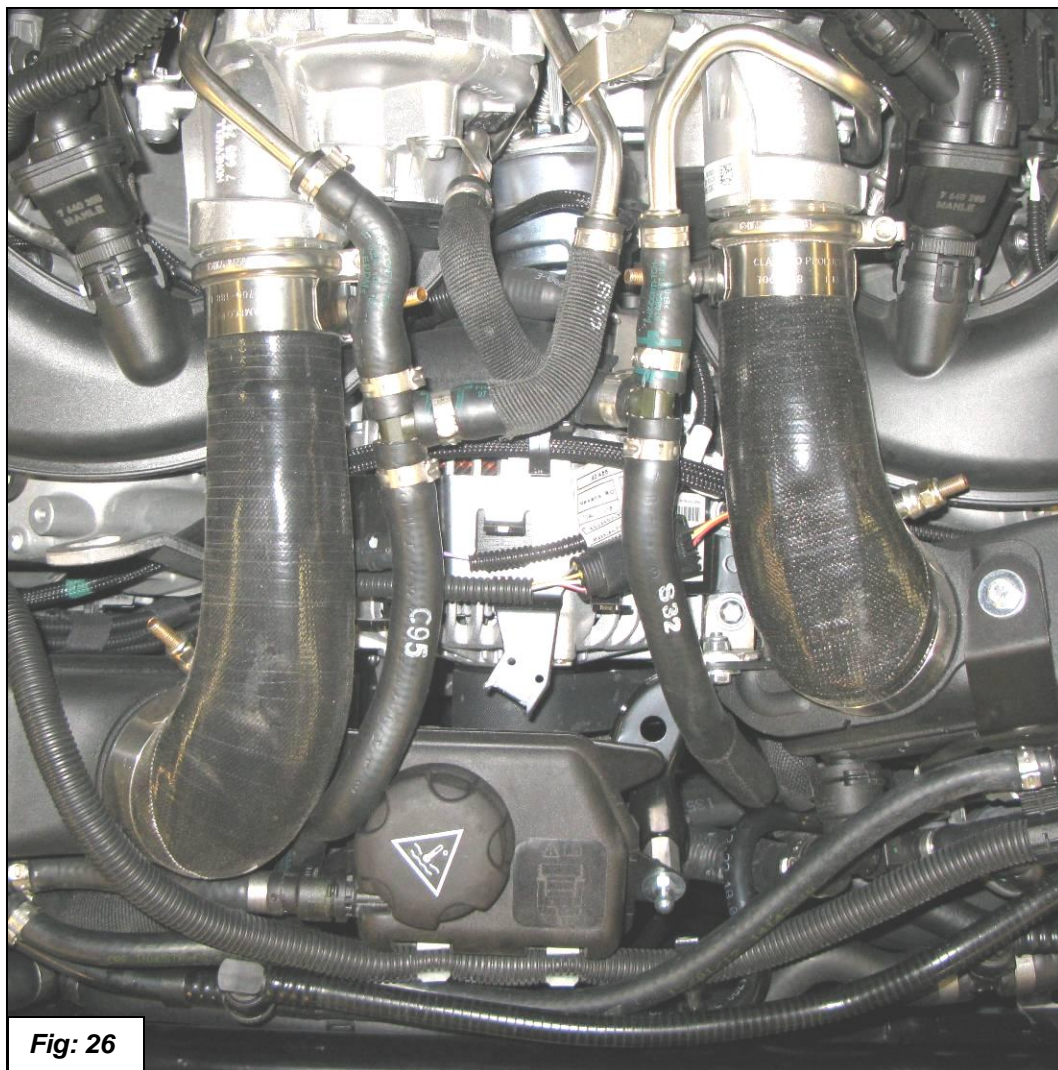

Fig: 26
17. Install the Dinan hoses as shown in figure 26. Use the T-Bolt clamps with the metal hose fittings you removed in step 6.